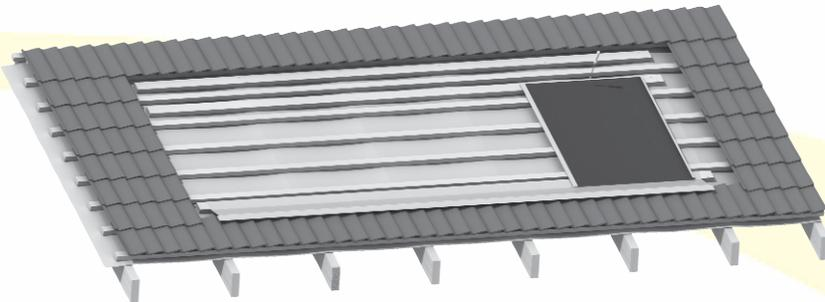

Figure 58a: Installation of First Tray
Fix to the middle batten(02) using one of the self-drilling sealing screws provided in the installation kit at the centre of the of the upper edge-see Figure 58a.